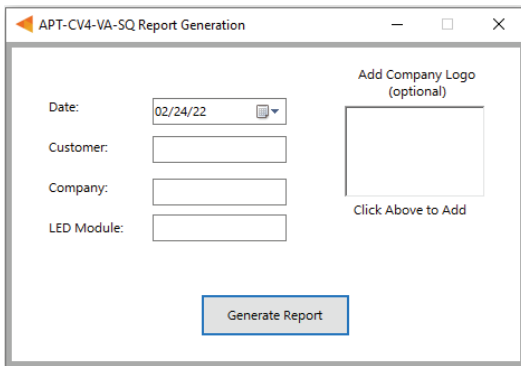

Figure 18: Report Generation window
- 1 Select **File > Generate Report**, or press **Ctrl+R**, to open the Report Generation Window (shown in Figure 18).